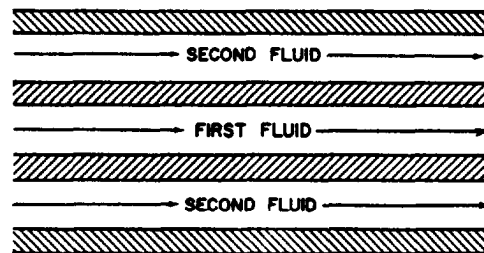

Figure 6-33.—Parallel flow in heat exchanger.
**PARALLEL FLOW.**—In parallel flow (fig. 6-33), both fluids flow in the same direction. If a parallel flow heat exchanger has a lengthy heat transfer surface, the temperatures of the two fluids will be practically equal as the fluids leave the heat exchanger.